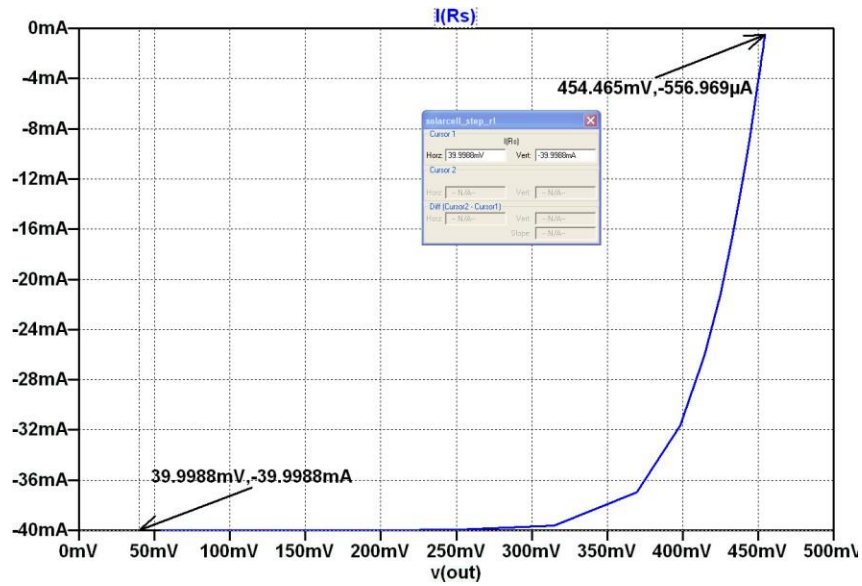

Figure 48: Finding V_{oc} and I_{sc} .
- Change the X-axis to $V(\text{out})$. You should see Figure 48.